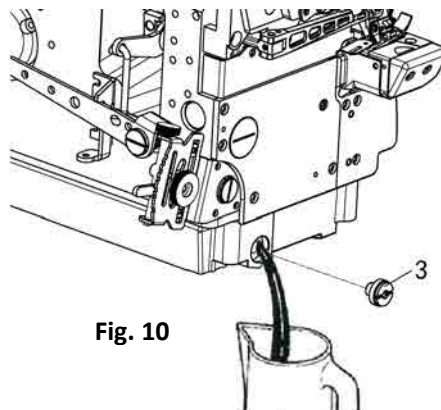

Fig. 10
2. Tighten screw 3 after draining (Fig.10)